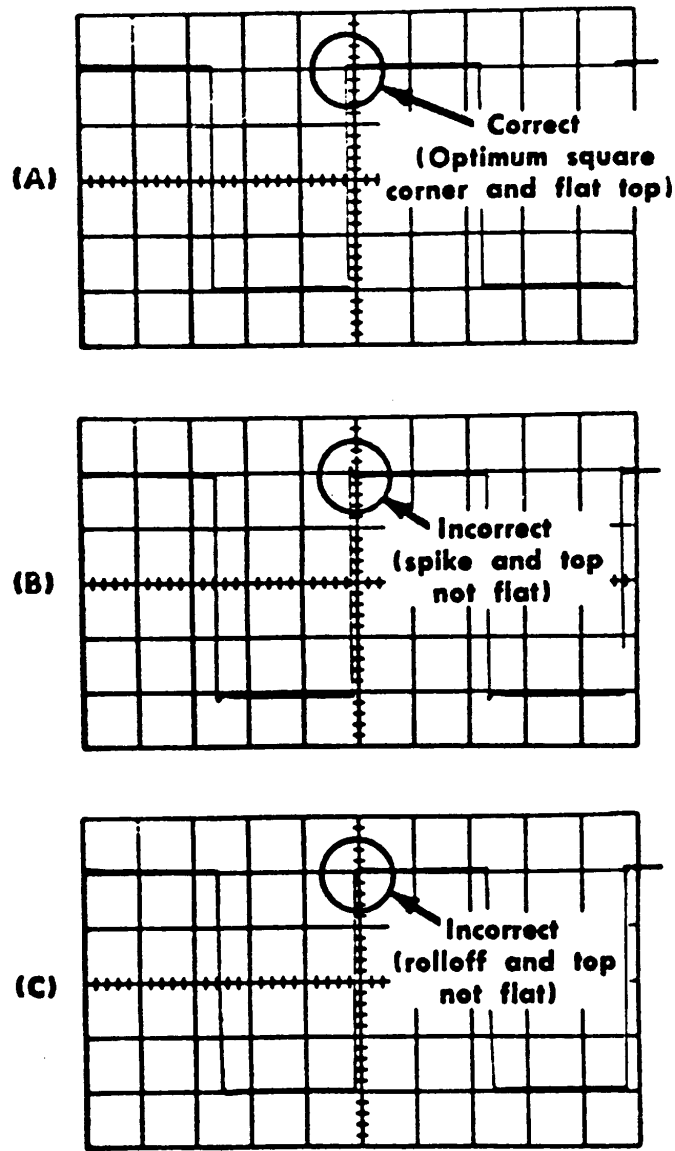

Figure 4. Optimum square wave.
(4) Adjust oscilloscope for a 2-square-wave display. Oscilloscope will display square waves with flat tops as shown in figure 4. If not, perform b below.
b. Adjustments. Adjust TI C3262 (fig. 1) for oscilloscope display of square wave with optimum flat top, as in figure 4.
a. Performance Check. Set TI VOLTS/CM switch to settings listed in table 9. At each setting, adjust signal generator (A3) controls for 1 kHz and oscilloscope display as listed. Oscilloscope will display square wave with flat top and square leading corners, as shown in figure 4. If not, perform b below.
Input capacitance (optimum flat top) (fig. 4)	Frequency compensation (square leading corner) (fig. 4)